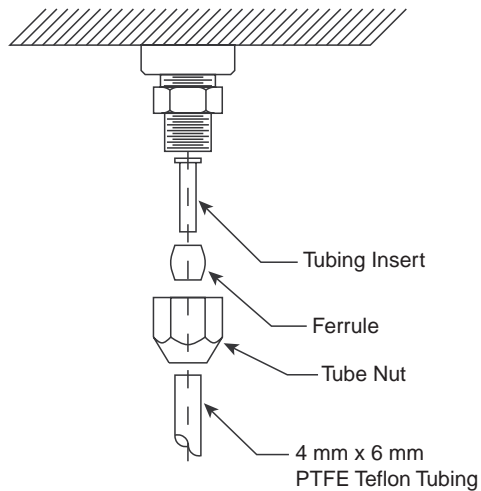

Figure 6: Installing Tubing in the Sample Fittings
2. Install a short piece, up to 20 cm long, of 4 mm I.D. x 6 O.D. mm Teflon PTFE sample tubing to the gas in fitting as shown in Figure 6 below.